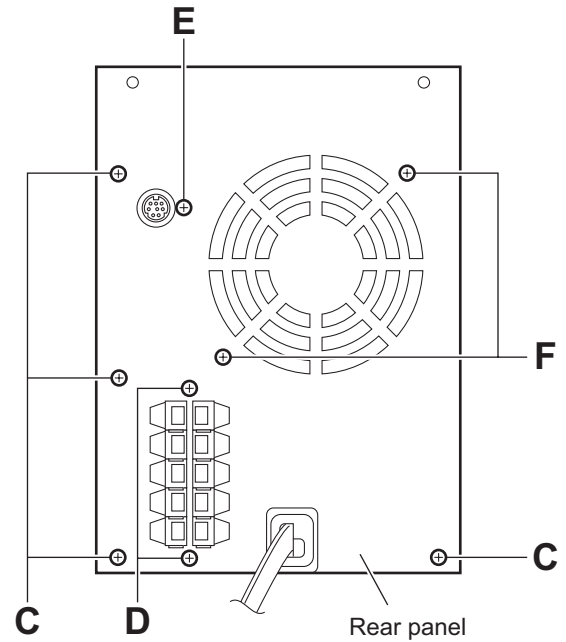

Fig.4
### 3.4.2 Removing the rear panel (See Figs.4 and 5)
- (1) From the back side of the amplifier assembly, remove the four screws **C**, two screws **D** and screw **E** attaching the rear panel. (See Fig.4)
### 3.4.3 Removing the fan motor (See Figs.4 and 5)
- (1) From the back side of the rear panel, remove the two screws **F** attaching the fan motor. (See Fig.4)